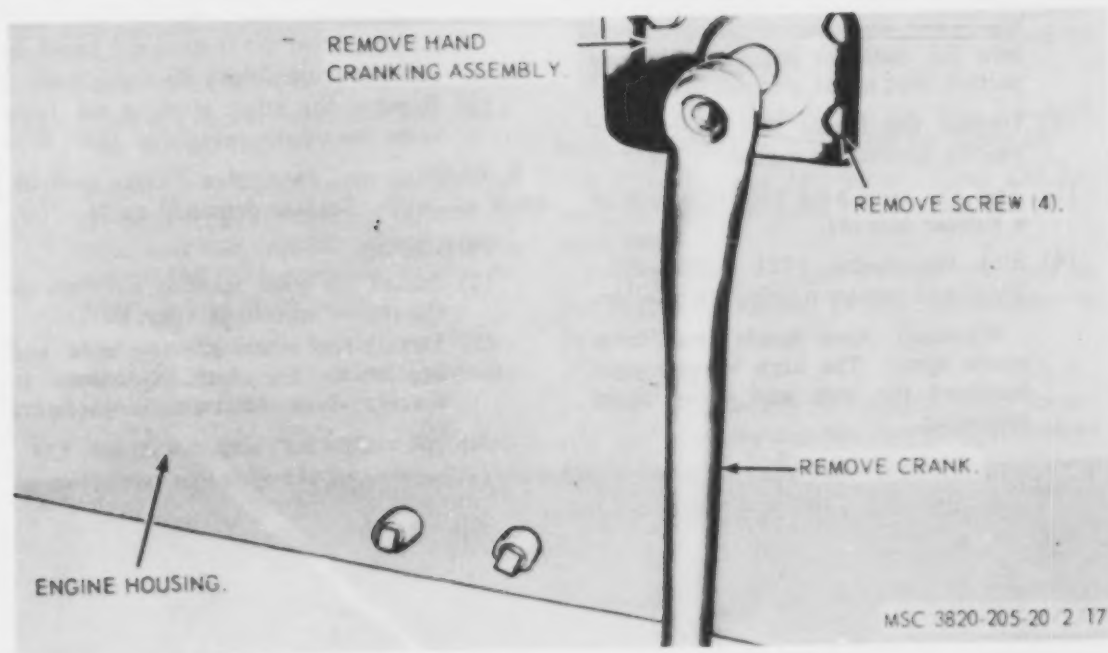

Figure 15. Handcranking assembly, removal and installation.
a. *Removal.* Remove the handcranking assembly from the engine as instructed on figure 15.
e. *Installation.* Install the handcranking assembly on the engine in reverse of the instructions on figure 15.